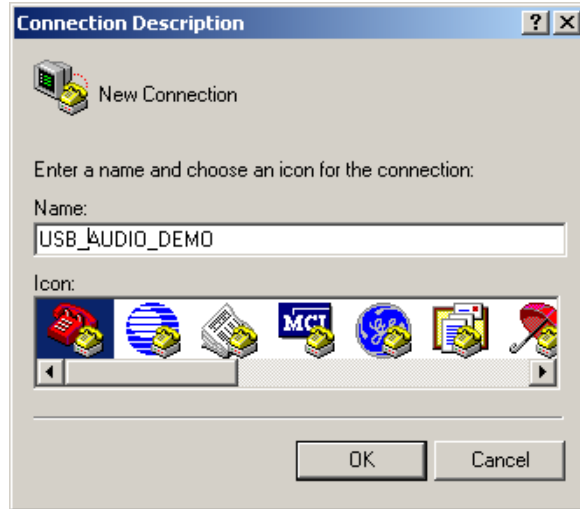

Figure G-9. HyperTerminal startup
- b) The HyperTerminal application is shown in Figure G-9. Enter the name of the connection and click OK button.